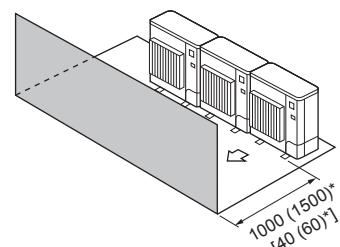

Fig. 2-14
③ Obstacles at front only (Fig. 2-14)